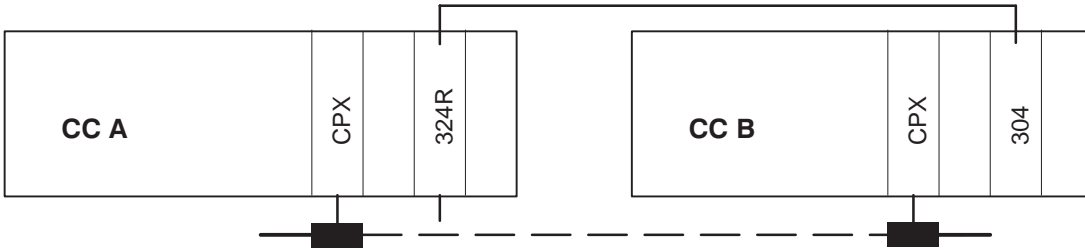

Figure 5-2 Two-Channel Redundant CP Configurations (Variant a)
- a) Two-channel redundant CP configuration (Figure 5-2)